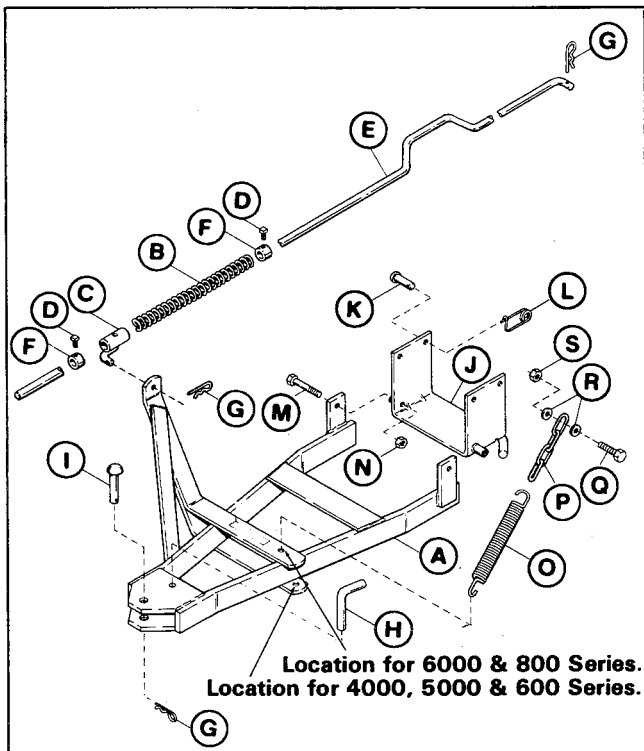
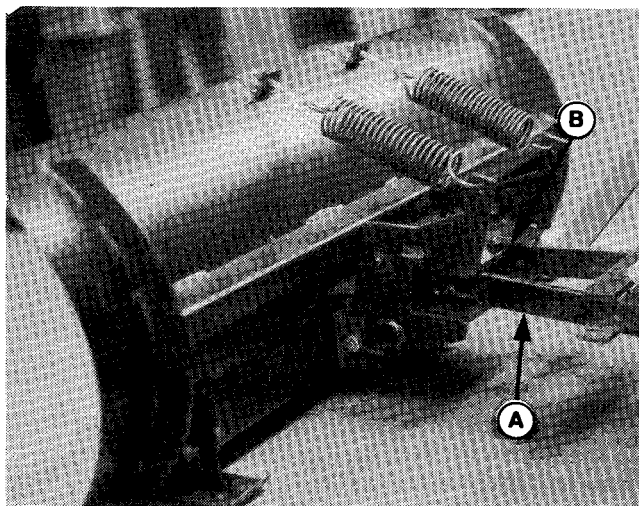

Figure 1. Push Bar and Lift Rod
Figure 6. Dozer Blade Assembled and Installed
7. Insert front of push bar (A, figure 6) into pivot frame on rear of blade. Then install king pin (I, figure 1) down thru holes in hitch and pivot frame. Secure king pin (I) with spring clip (G).
8. Using king pin as the pivot, swivel push bar to align holes for pivot pin (B, figure 6). Then install pivot pin downward through holes in blade and push bar. The pivot pin can be installed in any of three holes, depending on desired blade angle.
9. Assemble lift rod per figure 1. Insert prong of rod guide (C, figure 1) through hole in upright of push bar (A), and secure with spring clip (G).
10. Connect rear of lift rod (E, figure 1) to lift lever mounted on tractor using the spring clip (G).
Use any grade to your advantage. Plow downhill and set the blade angle so that plowed material (especially snow) is moving downhill as it leaves the blade. To change blade angle, pull out the pivot pin (B, figure 6). Pivot the blade to one of the other three holes and re-install the pivot pin.